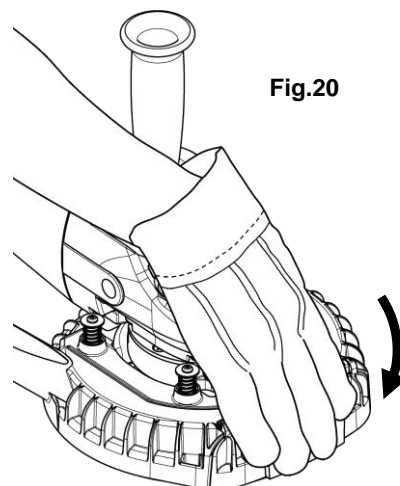

Fig.20
7. Turn off the angle grinder and vacuum, then close the Front Lid. (Fig.20)